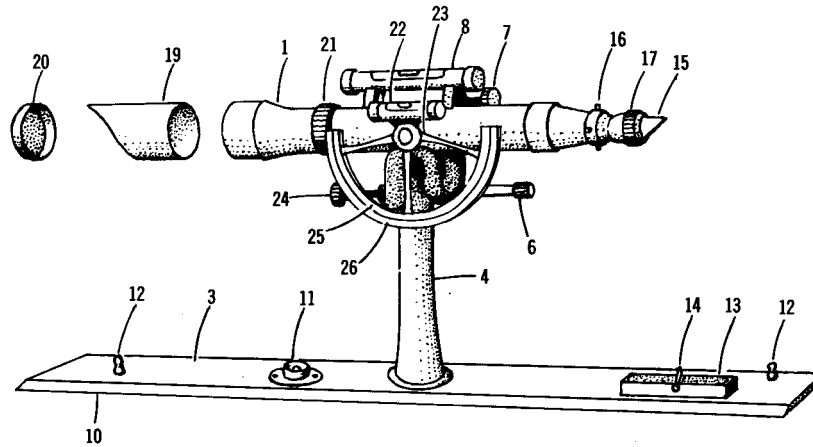

Figure 1. Alidade
2. Grasp the alidade by the pedestal and place at center of plane table (HOLD ON TO ALIDADE) and use bull's eye (11 in figure 1) to level board.